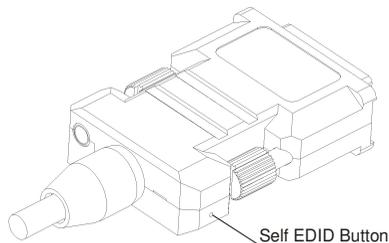

Figure 2: The EDID Button on the Transmitter Module
3. Push the EDID button (illustrated in Figure 2), using a thin screwdriver or pin.